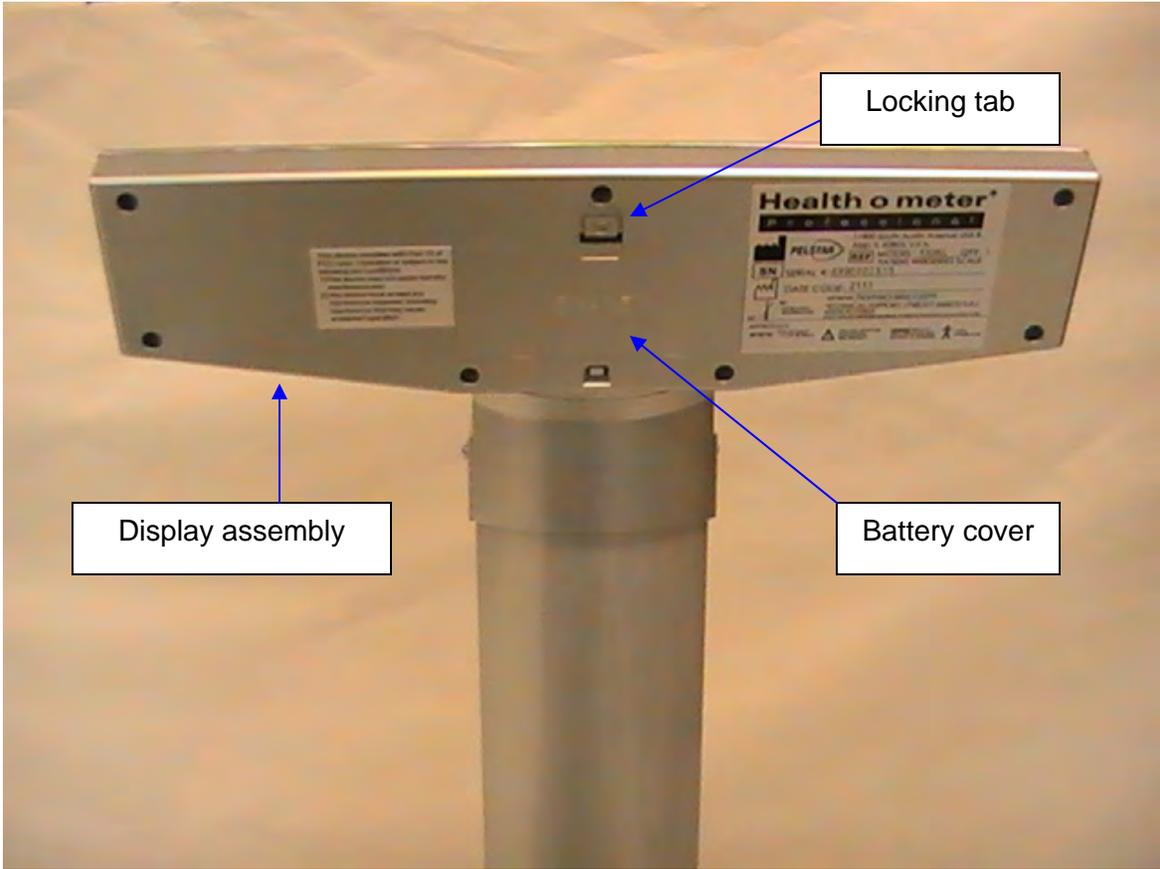

Figure 9
3. With a Phillips head screwdriver remove the screw from the battery compartment cover and remove the battery cover on the back of the display assembly by pressing the locking tab (see Figure 9).